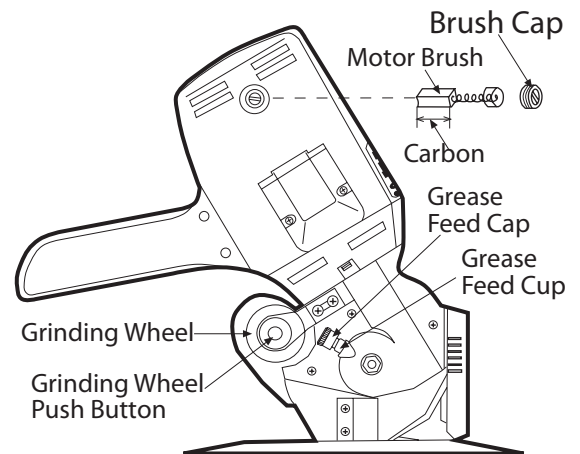

Figure 2. 4" Rotary Cutter Rear View
3. Sharpen the blade by turning the switch on and pushing the grinding wheel push button as shown in Figure 2 with constant pressure for 10 seconds. The pressure should be large enough to keep the grinding wheel in continuous contact with the blade to obtain a sharp and uniform cutting edge. Try a piece of scrap fabric to clean the blade. Repeat this operation if the blade is not sharp enough.
2. Unthread the grease feed cap off and inject a small amount of grease into the grease feed cup after every 50 hours use (see Figure 2).
If the motor does not run well, you may need to change the motor brushes, **Stk#DT47/C**. Motor brushes must be replaced when the carbon length is less than 1/4" as shown in Figure 2.
2. Unscrew brush cap (see Figure 2) to take out the worn motor brush.